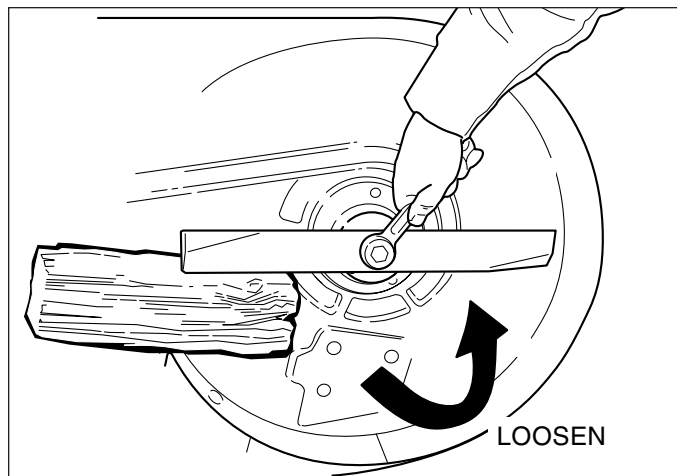

Figure 36. Removing the Blade
3. To remove blade for sharpening, use a wood block to hold blade while removing the blade mounting cap-screw (Figure 36).